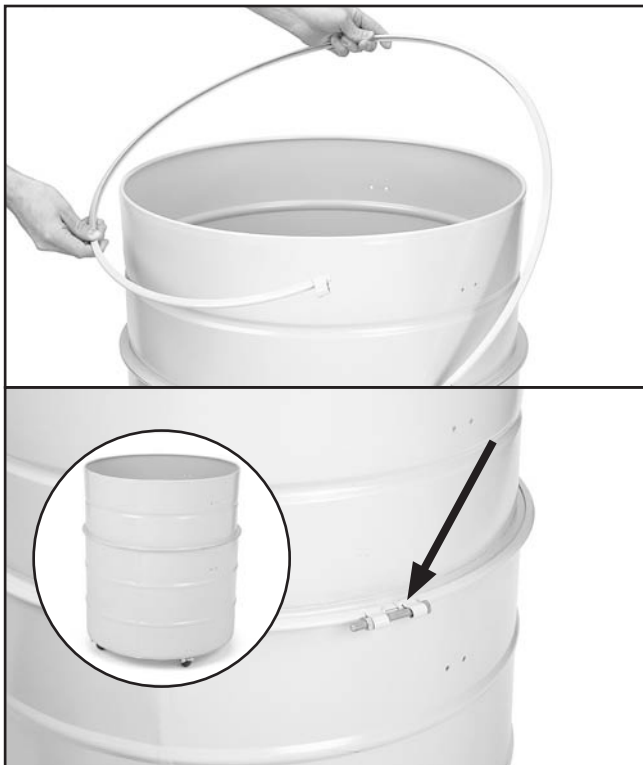

Figure 35. Installing drum clamp around dust collection cylinders.
43. Connect each upper and lower collection drum cylinder with a collection drum clamp and use (1) $\frac{5}{16}$ "-18 x 3" hex bolt and (1) $\frac{5}{16}$ "-18 hex nut to tighten the clamp (see **Figure 35**).